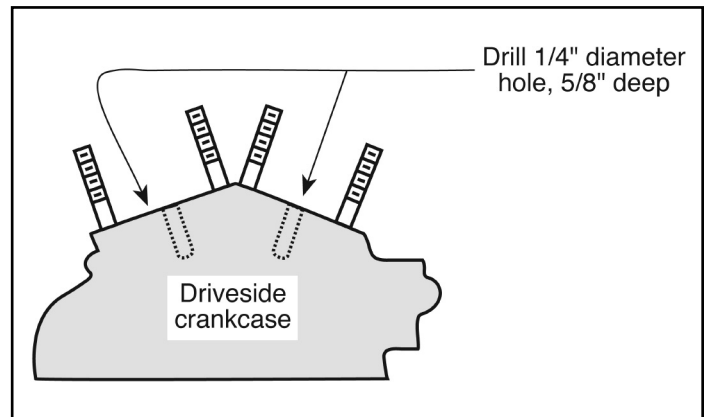

Figure 1
- C. Drill ¼" diameter hole perpendicular into crankcase gasket surface ⅝" deep. **See Figure 1.**
- F. Using lower oil return hole in cylinder spigots as a guide, drill $\frac{1}{4}$ " diameter connecting holes in crankcase to intercept holes drilled $\frac{5}{16}$ " deep in Step C. See Picture 1 & Figure 1.